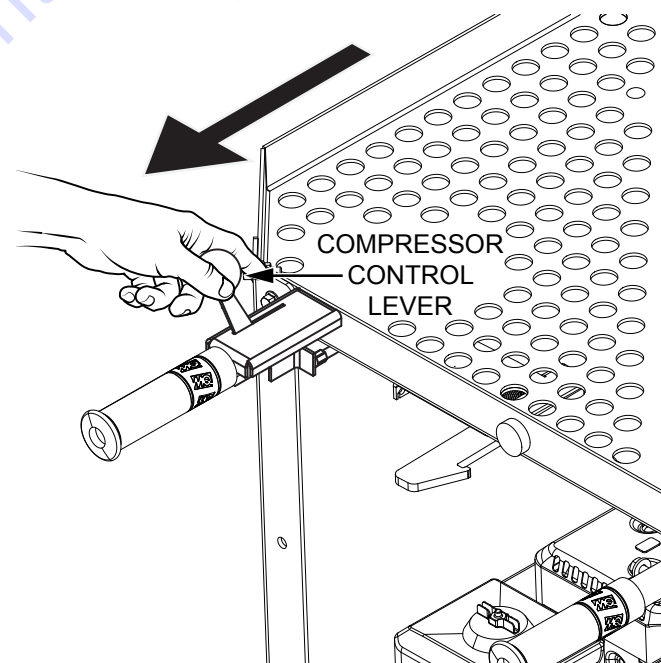

Figure 36. Disengage Compressor
- Slide the compressor control lever sideways to unlatch, then pull back on the lever to disengage the compressor (Figure 36).